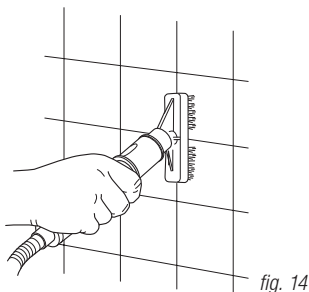

fig. 14
- 1 Attach the Grout Scrubber by snapping into the handle of the Accessory Hose until it clicks into place. **(fig. 14)**